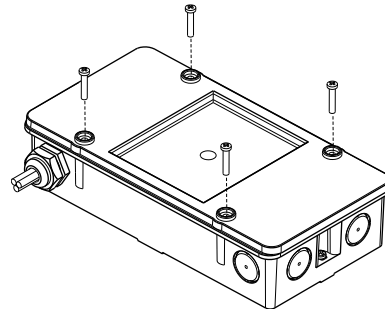

Fig. 7
6. Insert the sealing strip and close the housing with the screws (Fig. 7).